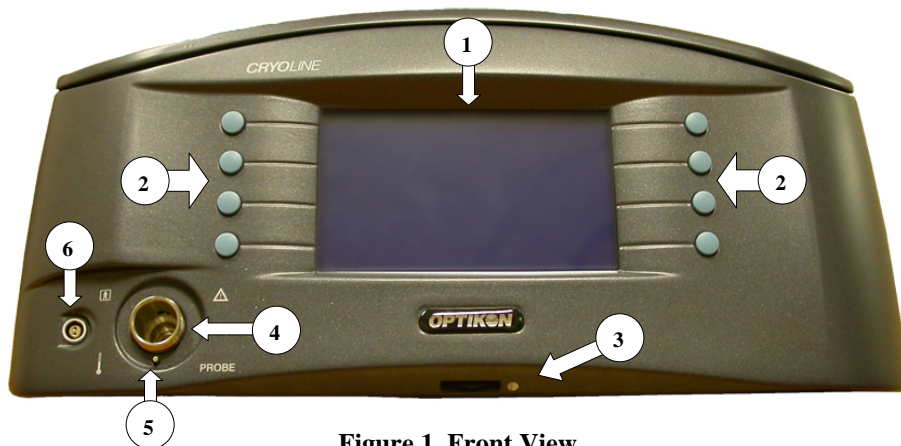
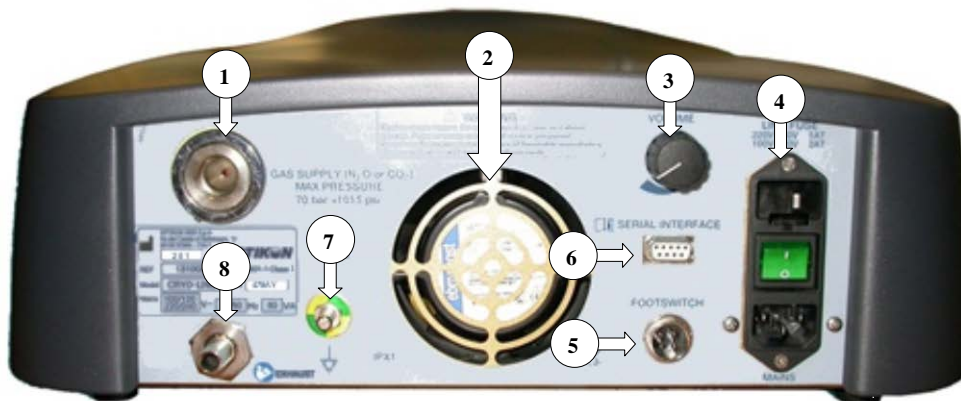

Figure 1. Front View
Figure 2. Rear View
This section contains information on the configuration of the unit. All the operational controls and adjustments are identified and described below. The connectors and other elements of the instrument are described in Figure 1. The connectors of the rear panel and other elements are described in Figure 2.
- iv. Accidental disconnection of the probe connector from the console (Figure 1, ref. 4).